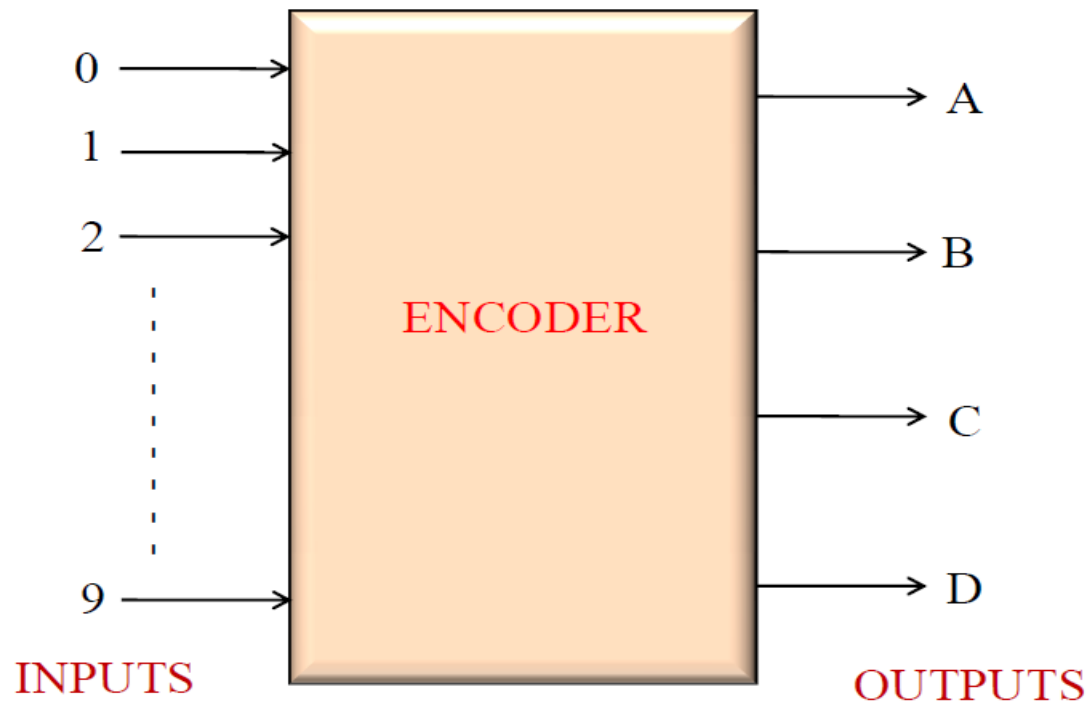

Fig. 18
- The block diagram is shown in fig.18 and Truth table in fig.19